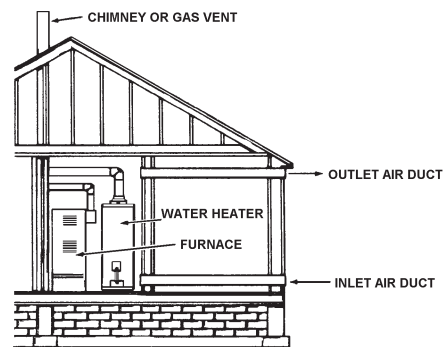

FIGURE 9.
- When communicating with the outdoors through horizontal ducts, each opening shall have a minimum free area of 1 square inch per 2,000 Btu per hour (11 cm²/kW) of total input rating of all equipment in the enclosure, see Figure 9.
- When ducts are used, they shall be of the same cross-sectional area as the free area of the openings to which they connect. The minimum short side dimension of rectangular air ducts shall not be less than 3 inches (76.2 mm), see Figure 9.